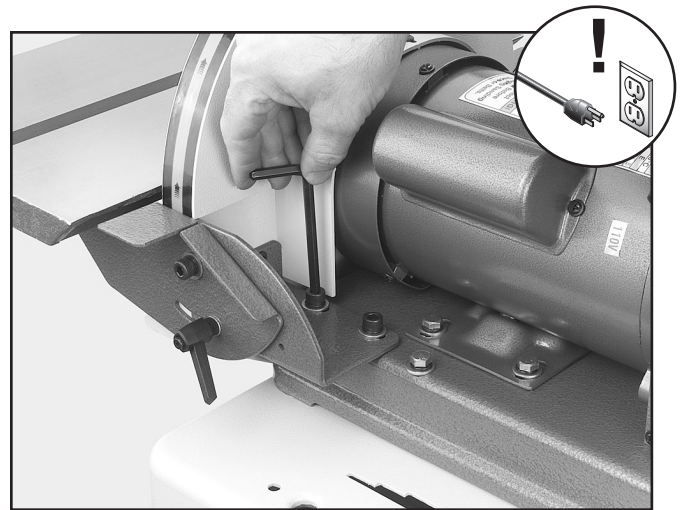

Figure 14. Loosening table bolts.
1. Use a machinist square with one edge against the face of the miter gauge and the other against the disc face as shown in **Figure 14**.